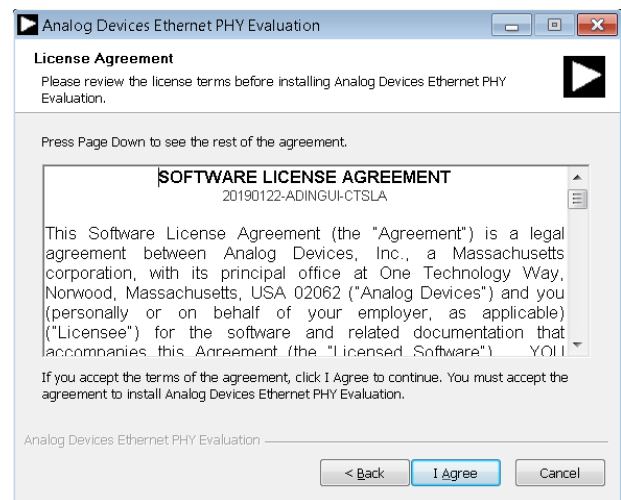

Figure 10. Accepting the License Agreement
5. A license agreement appears. Read the agreement and click **I Agree** to allow the installation to proceed (see Figure 10).